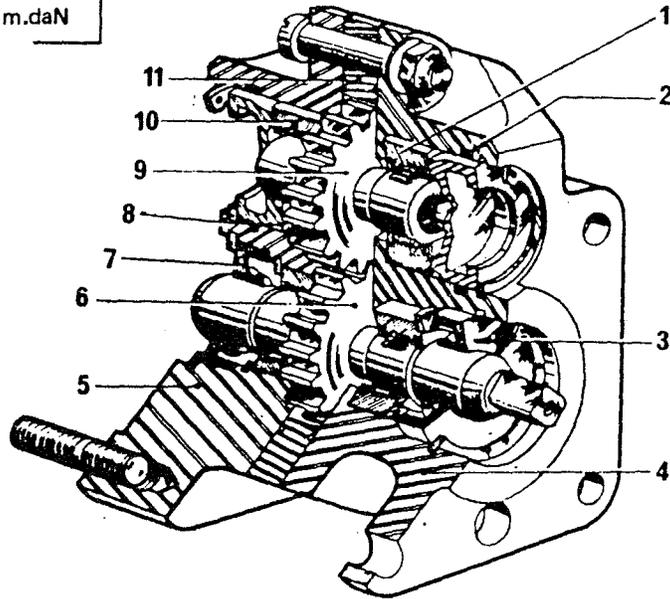

Figure 2
A. - HYDRAULIC PUMP (Figure 2)